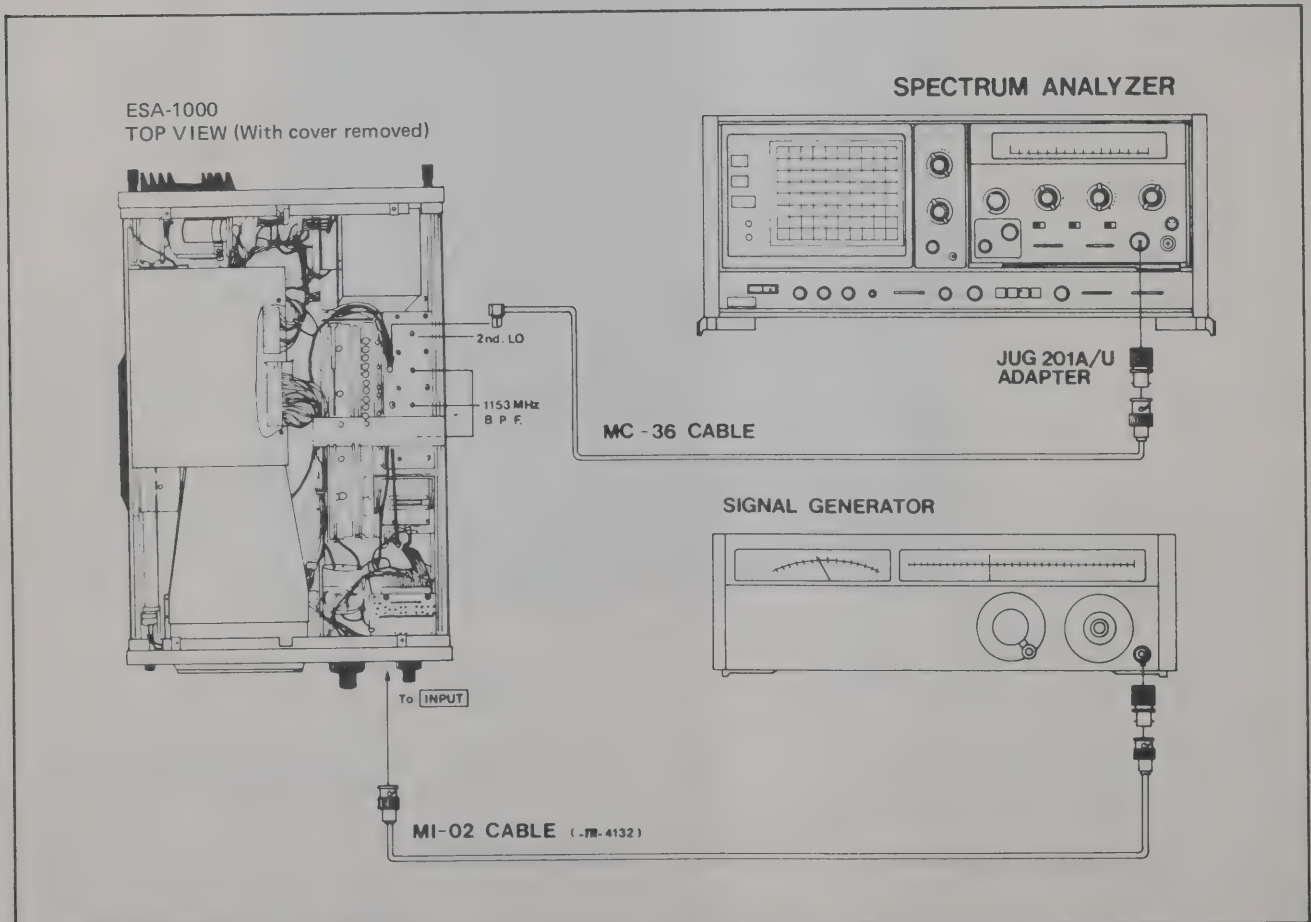

Figure 5.19 RF. Block Check Setup (Optional)
- a. Connect the Spectrum Analyzer to the 2nd LO OUTPUT (J46) and verify that the 2nd LO frequency is 1200 MHz  $\pm$  3 MHz (Figure 5.19).